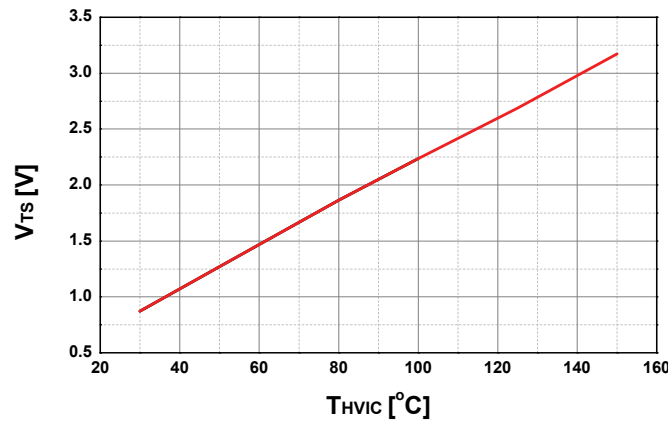
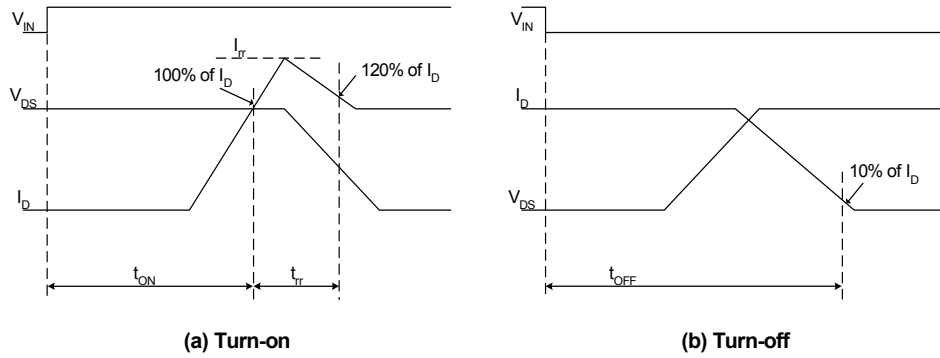

Figure 6. Temperature Profile of V_{TS} (Typical)
Figure 7. Switching Time Definitions
5. t_{ON} and t_{OFF} include the propagation delay of the internal drive IC. Listed values are measured at the laboratory test condition, and they can be different according to the field applications due to the effect of different printed circuit boards and wirings. Please see Figure 6 for the switching time definition with the switching test circuit of Figure 7.
6. The peak current and voltage of each MOSFET during the switching operation should be included in the Safe Operating Area (SOA). Please see Figure 7 for the RBSOA test circuit that is same as the switching test circuit.